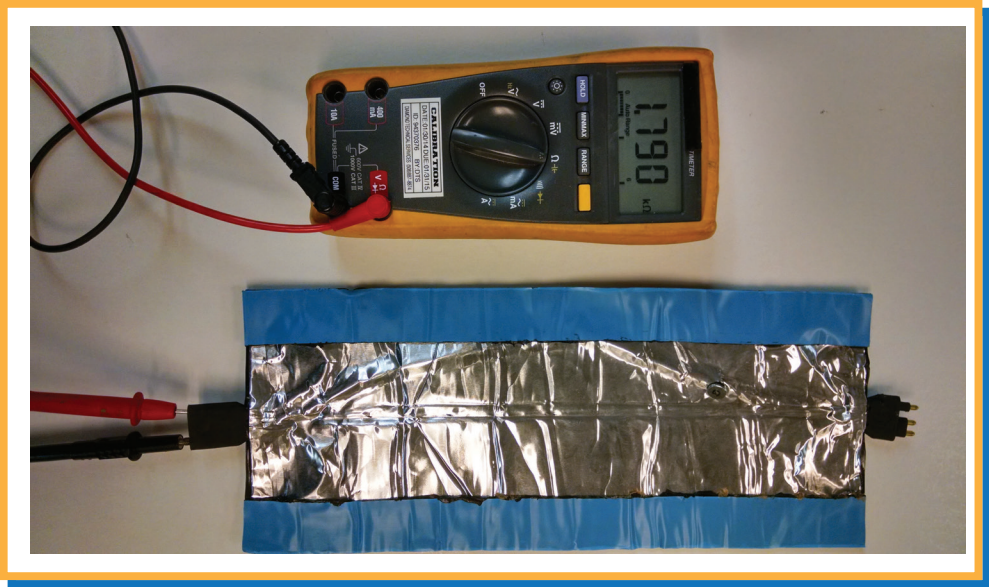

Figure 4. Checking Resistance of Heating Panels
2. Perform a resistance check immediately upon unpacking the heating panels using a digital ohm meter as shown in Figure 4. This will verify that the heating panels are in proper working order before they are adhered to the roof.